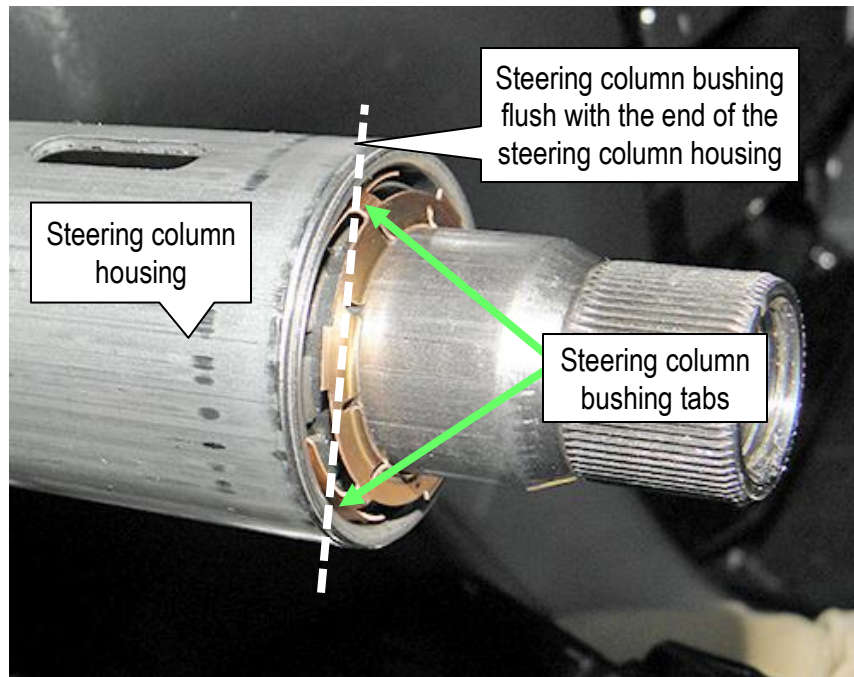

Figure 21
21. Tuck the three (3) steering column bushing tabs into the steering column housing, and then push the steering column bushing into the steering column housing until it is flush with the end, as shown in Figure 21.
NOTE: Only two of the three (3) steering column bushing tabs are shown in Figure 21. The third steering column bushing tab is hidden behind the steering column shaft.